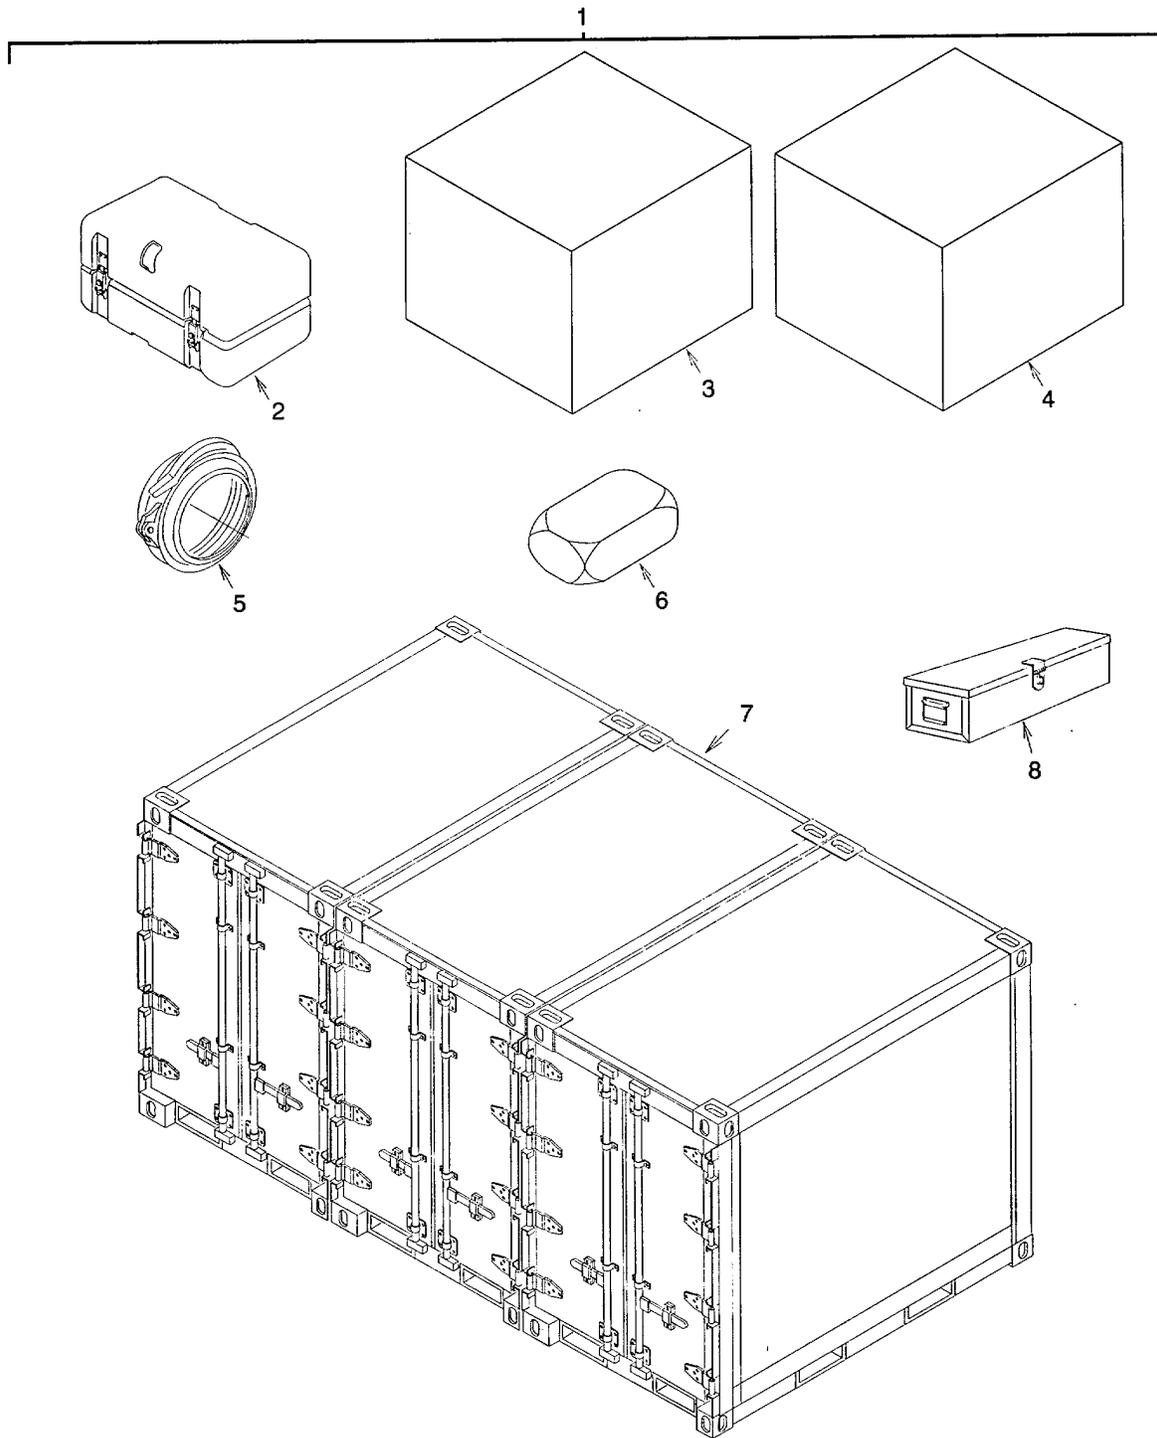

Figure C-6. Pipeline Connection Support Assembly
* See fig C-6. This assembly is part of Pipeline Connection Support Assembly.
<p>* See fig C-6. This assembly is part of the Pipeline Connection Support Assembly.</p>